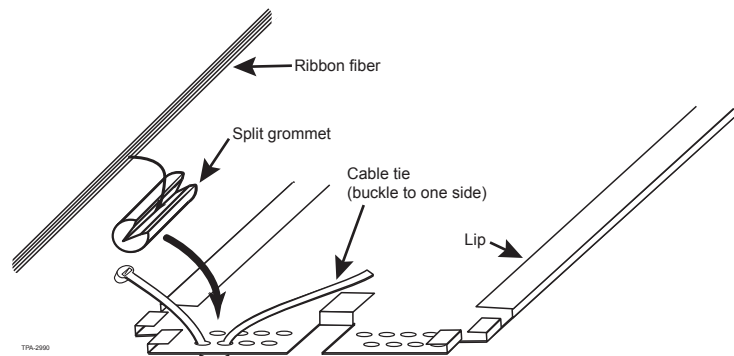

Figure 7
**NOTE:** A ribbon strain-relief kit is required to secure and transition ribbon fibers without tubing to the splice tray (Figure 7). This kit is provided with the OSE-ST-3 splice tray. Follow the instructions in the kit.
**Step 2:** Secure ribbon buffer tubes using cable ties threaded through holes in the tray (Figure 7).